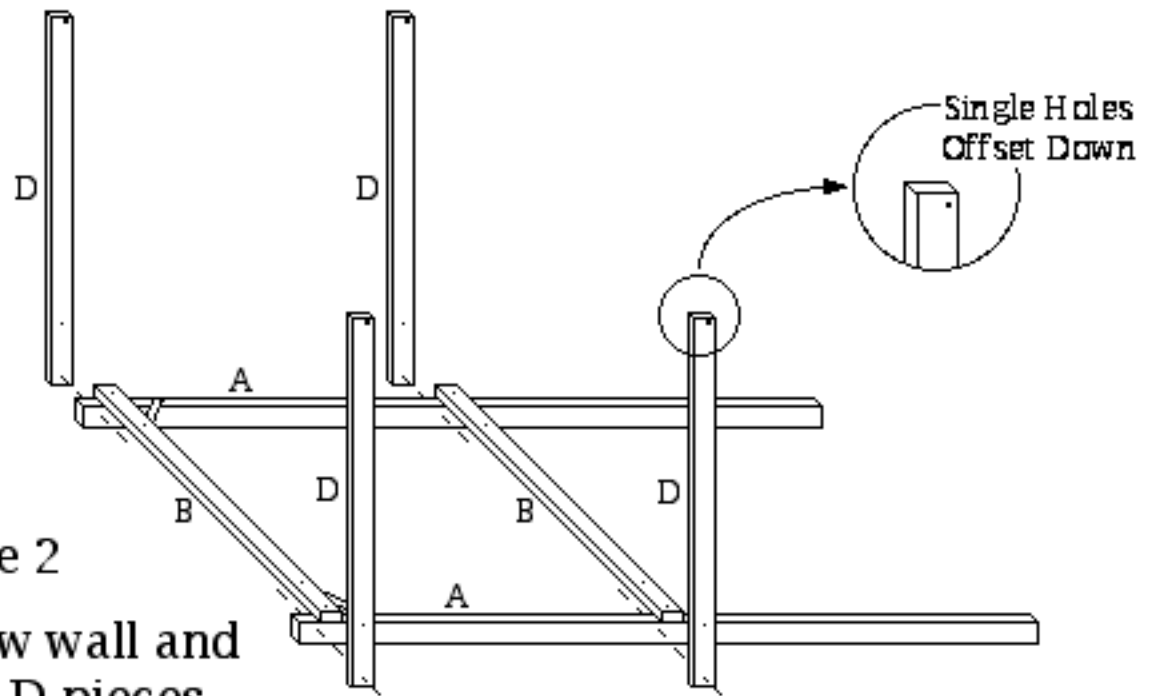

Figure 2
STEP 5: Attach the four 4' 1 x 3 's (D pieces) from the extension kit to the sides (edges) of the new wall. One end of each of the 4' 1 x 3 's will have two holes and the opposite end will have a single hole that is offset (that is, **not centered**). (Figure 2)
Step 5A: Place two of the 4' 1 x 3 's by the **mid-points** of the 2 x 3 's used for the new wall. The end with **two** holes should be next to the 2 x 3 's. Attach each of the 4' 1 x 3 's to the *outside* edge of the wall using one 4" bolt, one wing nut, and two washers. At this time they will pivot freely, and the holes at the free ends should be offset downward. (Figure 2)
Step 5B: Attach the two remaining pieces to the **tops** of the 2 x 3 's using three bolts, three wing nuts, four washers, and one mending plate. This will create a sturdy triangulated corner in two planes (see Fig. 13, original directions). Align the 4' 1 x 3 's so that the single holes at the free ends are offset downward. These pieces will be secure at 90° to the wall. Set the new wall aside. (Figure 2)